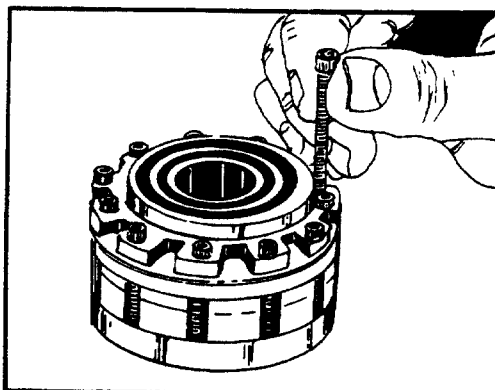

FIGURE 62.
17. Screw the eleven hex socket head cap screws (18) loosely into metering package. See figure 62.